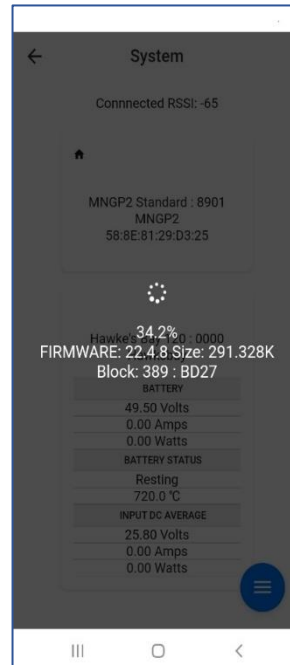

Figure 21
9. FW app will show transfer progress, **Figure 21**.